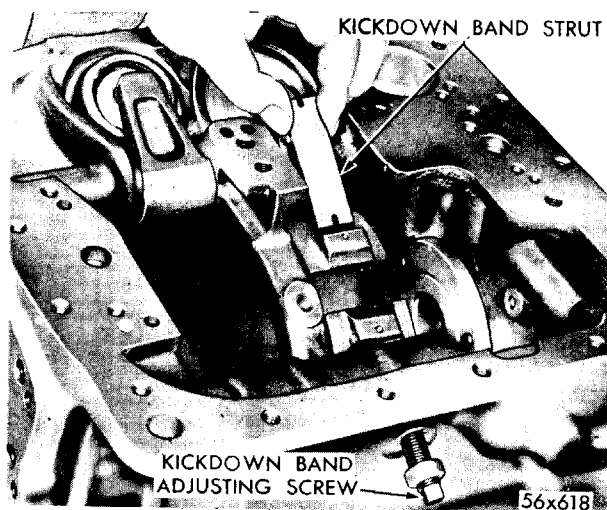

Fig. 45—Removal and Installation of Kickdown Band Strut
(1) Mark band for reassembly purposes. Compress kickdown band ends sufficiently to remove the kickdown band strut, see Figure 45 and remove the kickdown band anchor from adjusting screw.
(2) Remove the kickdown band assembly by rotat-